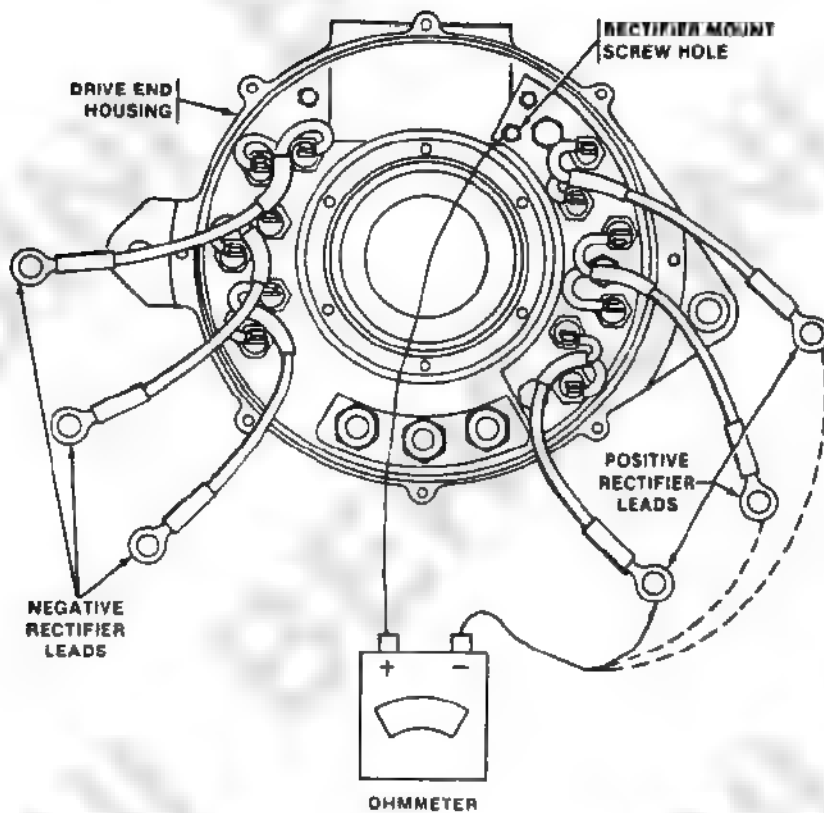

Figure 2-2. Shorted Positive Rectifier Test.
- Step 4. Check for shorted positive rectifiers. Connect ohmmeter to each of the three positive rectifier leads in accordance with figure 2-2.